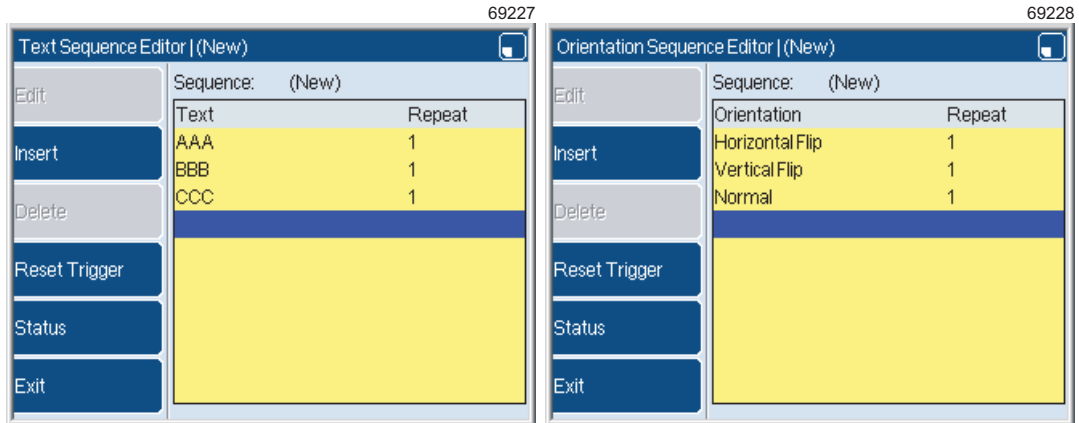

Figure 12. Sequence completed
- For this example, the completed sequences are like Figure 12.